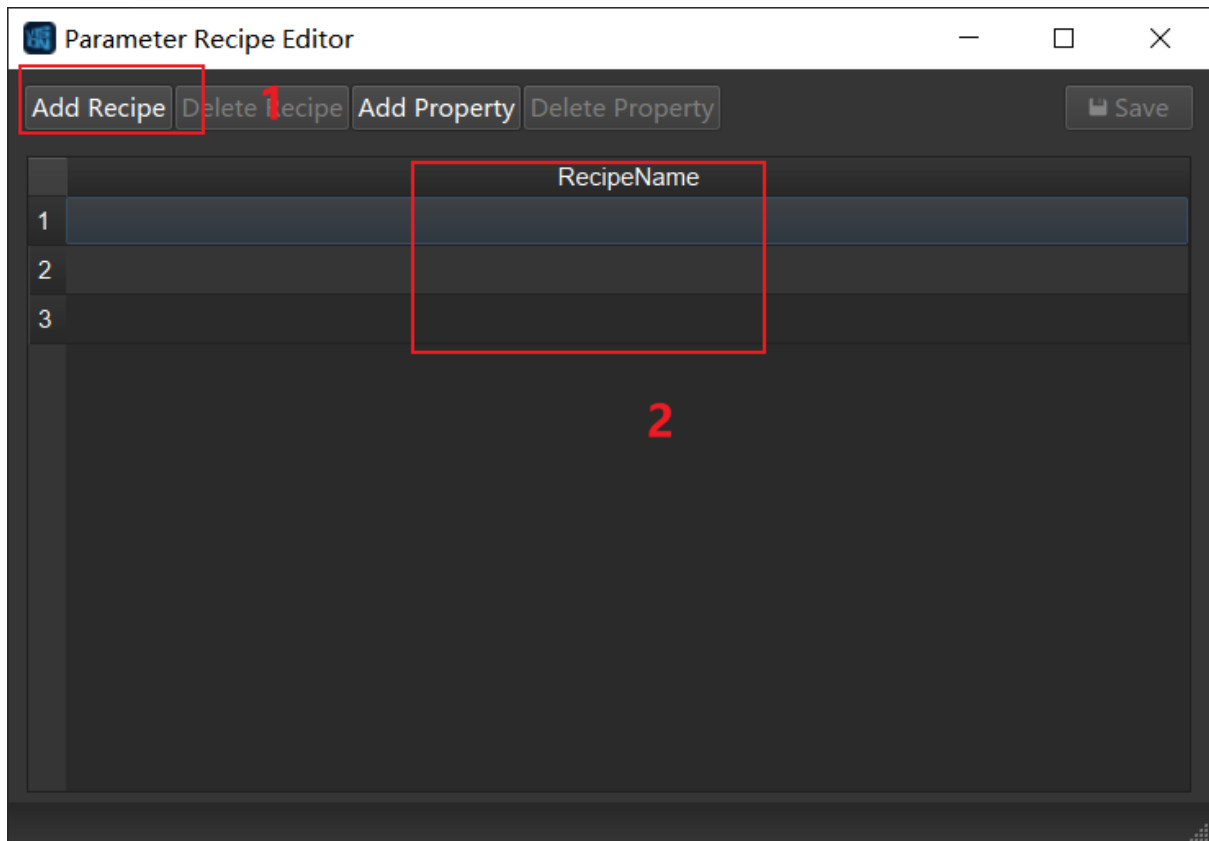

Figure 1. Add Recipe
- Fill in a unique formula name, as shown in *Figure 1*.